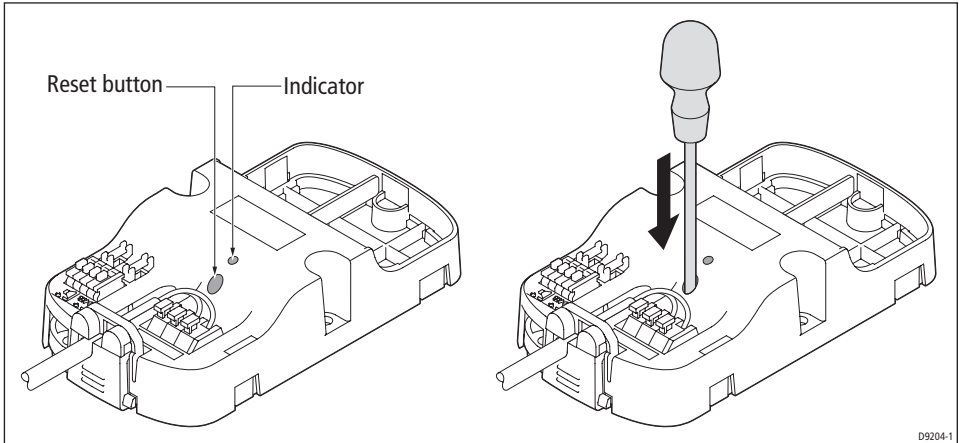

Figure 11 - Setting a Base Unit as a Repeater
3. Remove the cover from the second Base Station as shown on *page 3*, then locate the internal reset button and the LED indicator (see *Figure 11*).